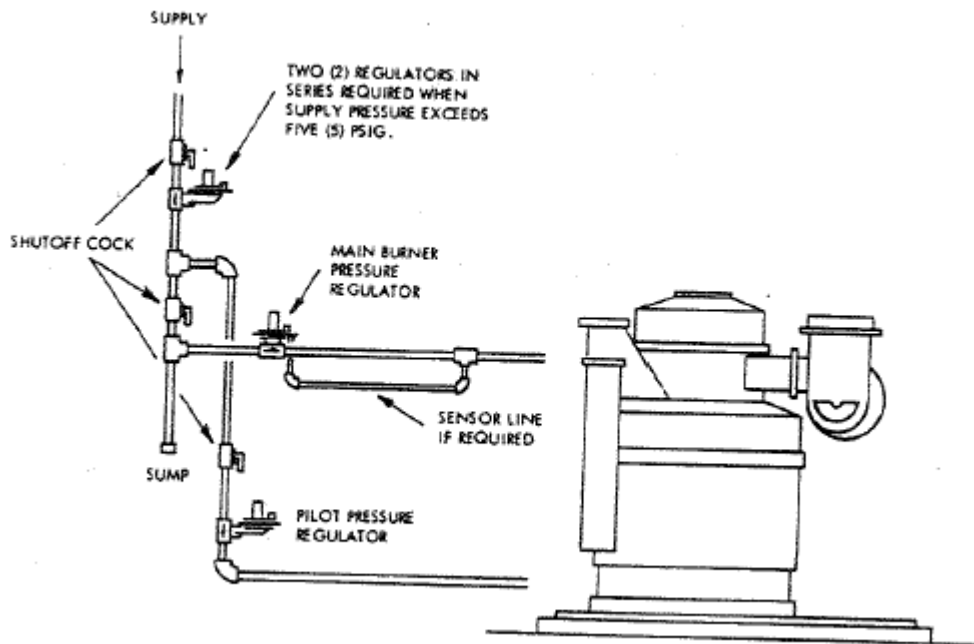

Figure 16, Gas Regulator Installation
10.2.6 The selected gas regulator(s) may be installed anywhere between the meter and the boiler, but must be located upstream of gas line safety equipment. Wherever the regulator is located, it must be capable of supplying the required pressure at the boiler connection. Figures 16, 17, 18, and 20 illustrate a gas pressure regulator.
11.4 The pilot gas regulator may be installed anywhere between the meter and the main gas regulator and must be capable of supplying the required pressure at the heater connection. Figures 16, 17, 18, and 20 illustrate a gas pressure regulator installation.